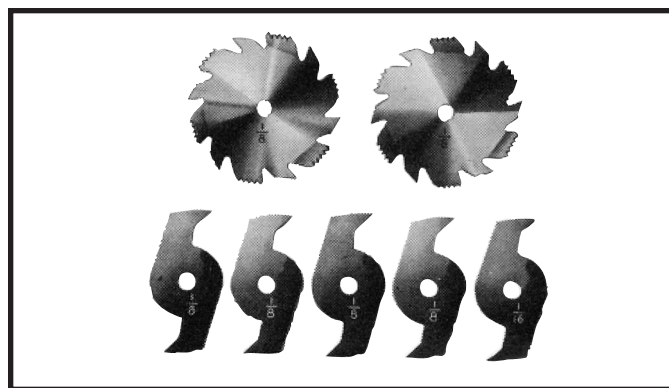
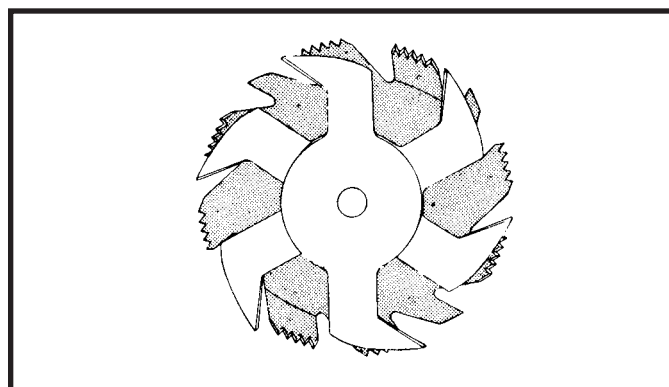
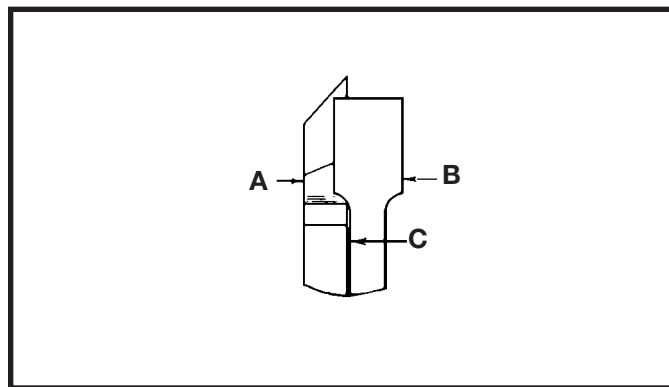

Fig. 66
Fig. 67
Fig. 68
Dadoing is cutting a rabbet or wide groove into the work. Most dado head sets are made up of two outside saws and four or five inside cutters, as shown in Fig. 66. Various combinations of saws and cutters are used to cut grooves from 1/8" to 13/16" for use in shelving, making joints, tenoning, grooving, etc. The cutters are heavily swaged and must be arranged so that this heavy portion falls in the gullets of the outside saws, as shown in Fig. 67. The saw and cutter overlap is shown in Fig. 68, (A) being the outside saw, (B) an inside cutter, and (C) a paper washer or washers which can be used as needed to control the exact width of groove. A 1/4" groove is cut by using the two outside saws. The teeth of the saws should be positioned so that the raker on one saw is beside the cutting teeth on the other saw.